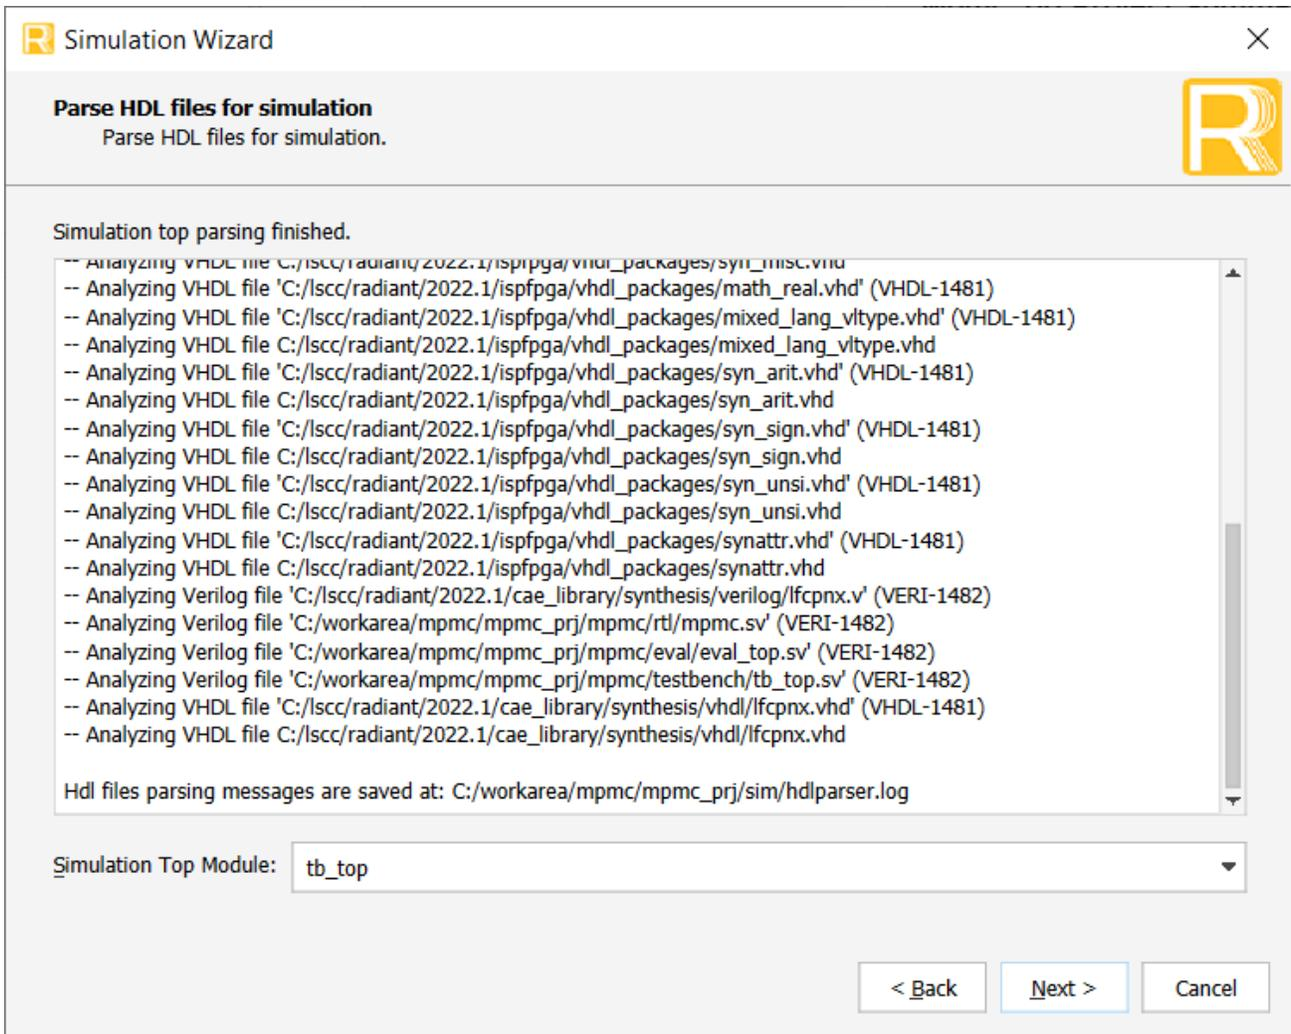

Figure 6.13. Parsing Simulation HDL Files
3. In the **Parse HDL files for simulation** window, check that the **Simulation Top Module** is set to `tb_top`, as shown in Figure 6.13. Click **Next**.